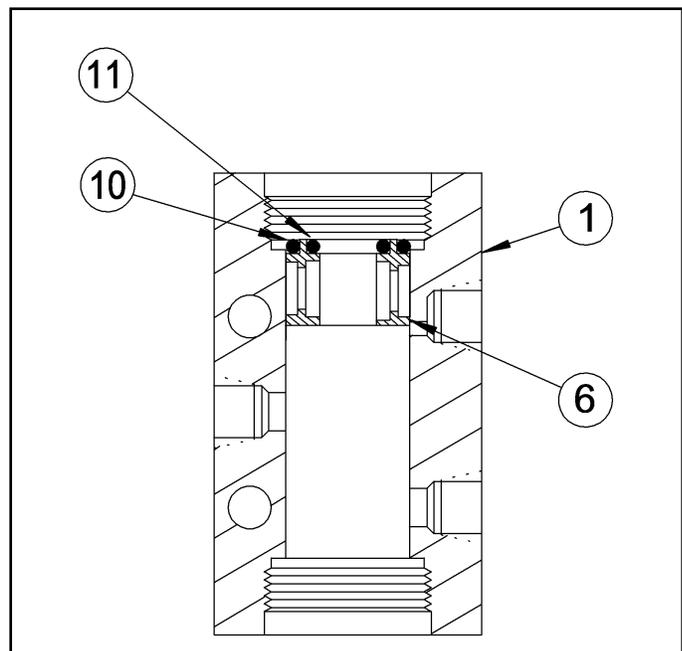

Figure 2: Placing End Sleeve Seals
5. Clean stem (item 7) with a soft cloth, Do Not scratch the stem. Clean the end sleeves (item 6) and center sleeve (item 5).
6. Lubricate and install new outer o-ring (item 10) and install new inner o-ring (item 11), without lube, on one end sleeve (item 6). From the spring retainer end, fit the end sleeve into the bore of the body with the o-rings toward the spring retainer threads. Insert the sleeve until the outer o-ring is about to enter the bore. (See Figure 2.)